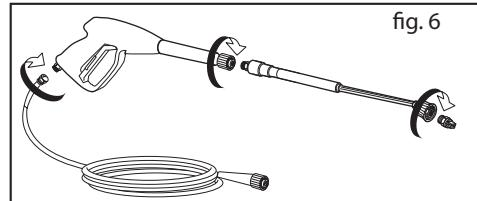

fig. 6
2. Connect the high pressure hose to the spray gun. Insert the spray wand of your choice into the wand extension. Press in against the spring tension and twist into the locked position (fig. 6). Insert the nozzle (fig. 2A).